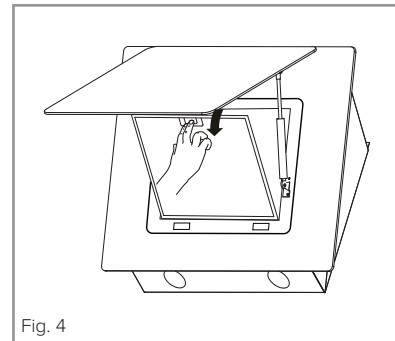

Fig. 4
- Push in the button on the handle and then pull down on the filter at the top as shown in Fig. 4.